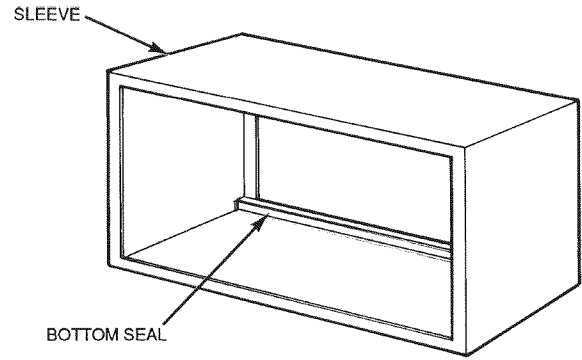

Fig. 6 – Remove Bottom Seal From GE Plastic Sleeve
**GE Plastic Sleeve** - Remove bottom seal from plastic sleeve. See Fig. 6.